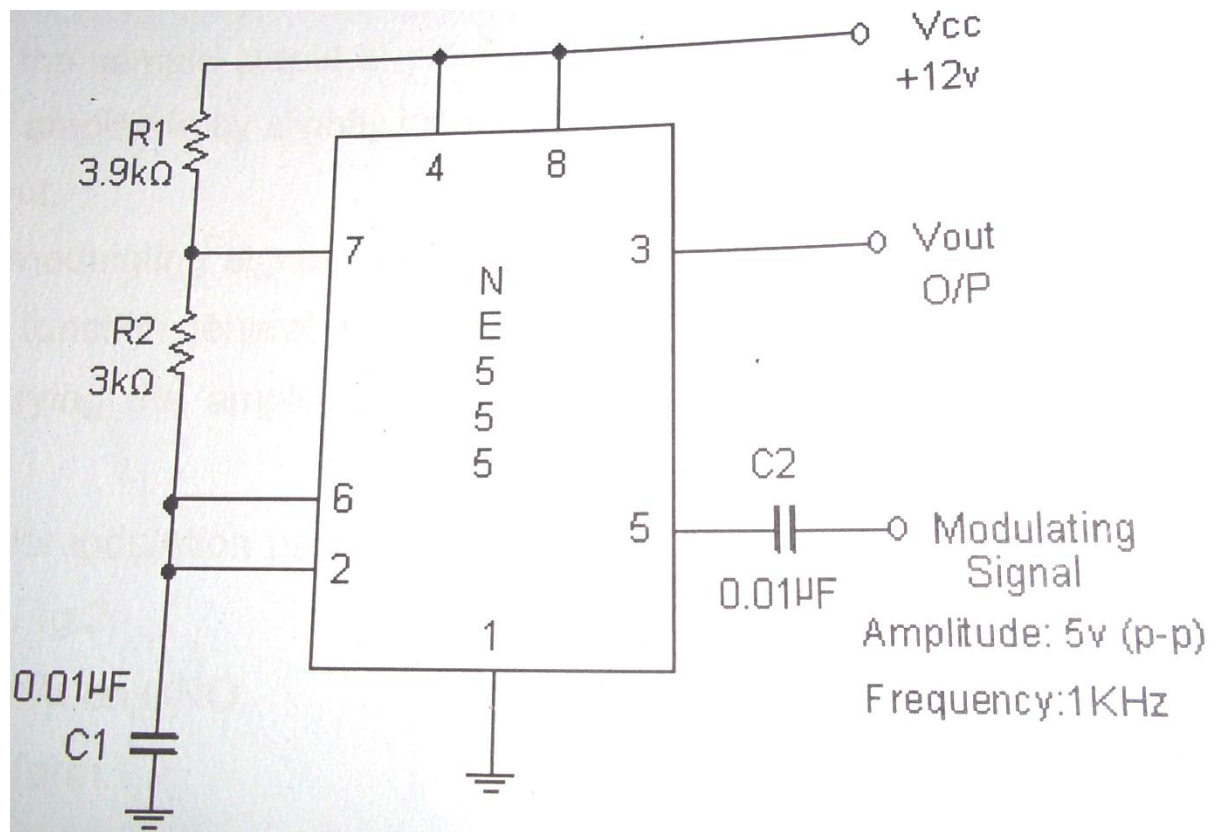

Fig: 1 Pulse Position Modulation Circuit
1. Connect the circuit s per circuit diagram as shown in the fig 1.